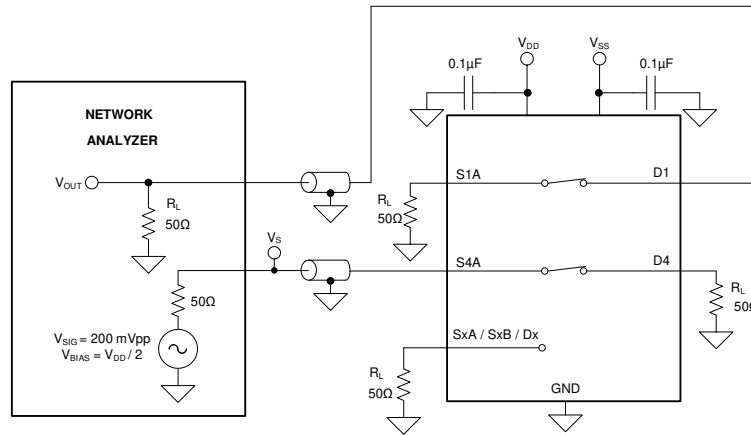

图 24. Crosstalk Measurement Setup
Crosstalk is defined as the ratio of the signal at the drain pin (D) of a different channel, when a signal is applied at the source pin (Sx) of an on-channel. 图 24 shows the setup used to measure, and the equation used to calculate crosstalk.